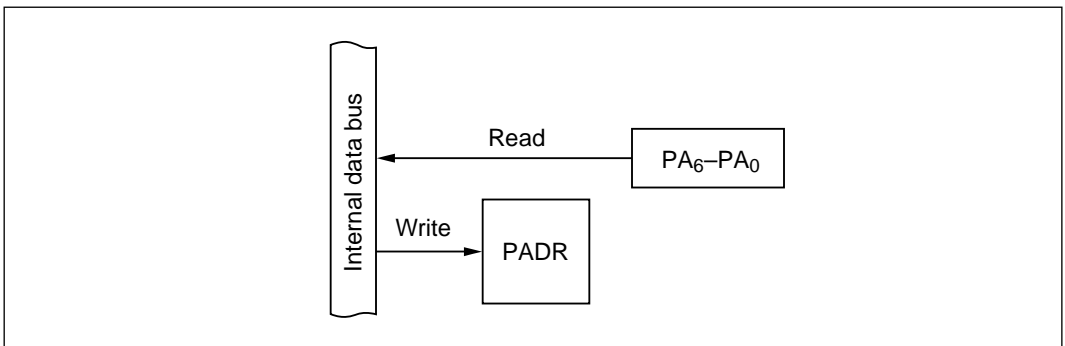

Figure 10-63 Input Port (Modes 1 to 7)
(1) Input Port (PA_6 to PA_4 in Modes 1 to 7; PA_3 to PA_0 in Modes 1, 2, 4, 6, and 7): Figure 10-63 shows a block diagram illustrating the general-purpose input function. Table 10-47 indicates register read/write data. Values written in the port A data register (PADR) have no effect on general-purpose input lines. When read, PADR returns the value at the pin.